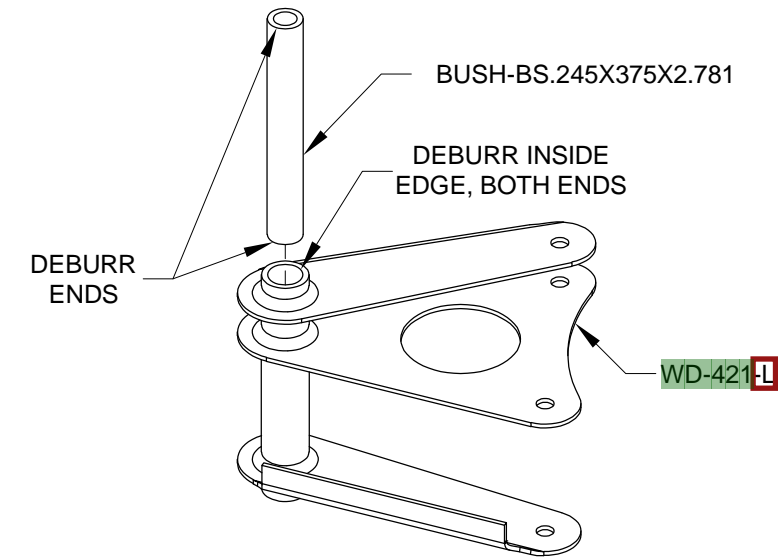

FIGURE 1:
Step 1: Check that the length of both of the BUSH-BS.245X375X2.781 Aileron Bellcrank Bushings is between 2 3/4 inches and 2 25/32 inches. Check that an AN4 bolt will fit the inside diameter of the aileron bellcrank bushings and ream if required. Deburr the ends of the aileron bellcrank bushings so that they slide easily inside the WD-421 Aileron Bellcranks. See Figure 1.
The pivot tube of the aileron bellcrank must be 1/32 inch to 1/16 inch shorter than the aileron bellcrank bushing. File the ends of the aileron bellcrank pivot tubes if/as required to achieve the correct length. Deburr the inside edges of the aileron bellcrank pivot tubes. See Figure 1.
Insert an aileron bellcrank bushing into each aileron bellcrank as shown in Figure 1.